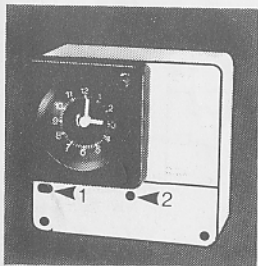

Fig 1
- For surface fixing screw unit to wall with countersunk No. 8 woodscrews using fixing holes 1 & 2 (see fig 1).